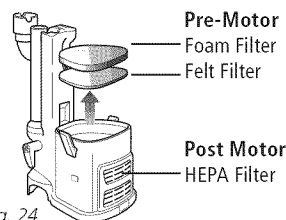

Fig. 24
- 2 Pull the 2 filters out from the top of the motor base. (Fig. 24)